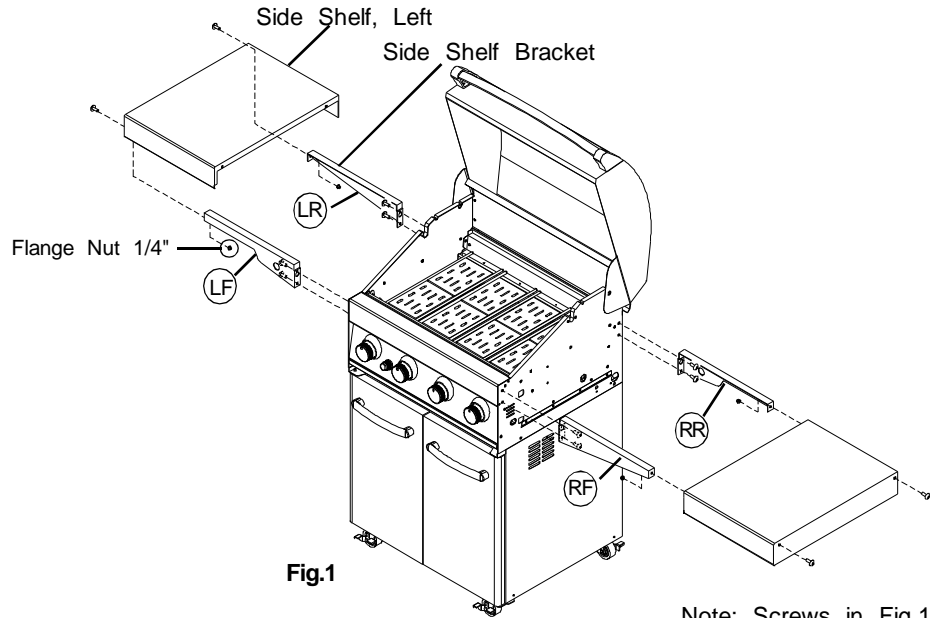

Fig.1
- Attach the Side Shelf Brackets(LF/LR) to the Left Bowl Side Panel. Align the 4 holes on the Side Shelf Brackets (LF/LR) with the 4 threaded holes on the Left Bowl Side Panel. Insert 4 Phillips Head Screws 1/4"x 1/2" and tighten securely as shown in **Fig.1**.
- Place the Side Shelf, Left over the Left Side Shelf Brackets. Align the 2 holes on the Side Shelf, Left with the 2 holes at the ends of Left Side Shelf Bracket. Insert 2 Phillips Head Screws 1/4"x 1/2" and tighten securely using 2 Flange Nuts 3/16" as shown in **Fig.1**.
Note: Screws in Fig.1 are all Stainless Steel.